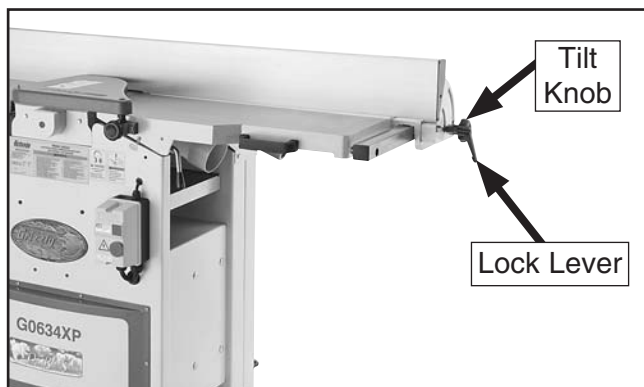

Figure 5. Fence lock location.
Fence Movement: The fence lock lever keeps the fence in position (see **Figure 5**). To move the fence, loosen the lever, slide the fence in the desired direction, then tighten the lever.
Fence Tilting: The tilt knob (**Figure 5**) secures the fence at any position in the available range. Fence stops set the fence at 90° or 45° outward. The tilt knob must be tightened before jointing. See **Page 10** in this insert for more detail on adjusting the fence stops.
3. Loosen the fence lock lever (**Figure 5**) and slide the fence off of the machine.